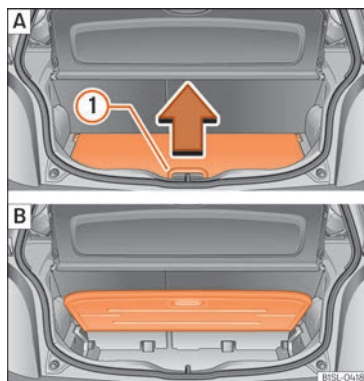

Fig. 96 Variable luggage compartment floor:
- To raise the floor, lift the lever »» Fig. 96 [A] ① in the direction of the arrow and pull on the floor fully upwards »» Fig. 96 [B].